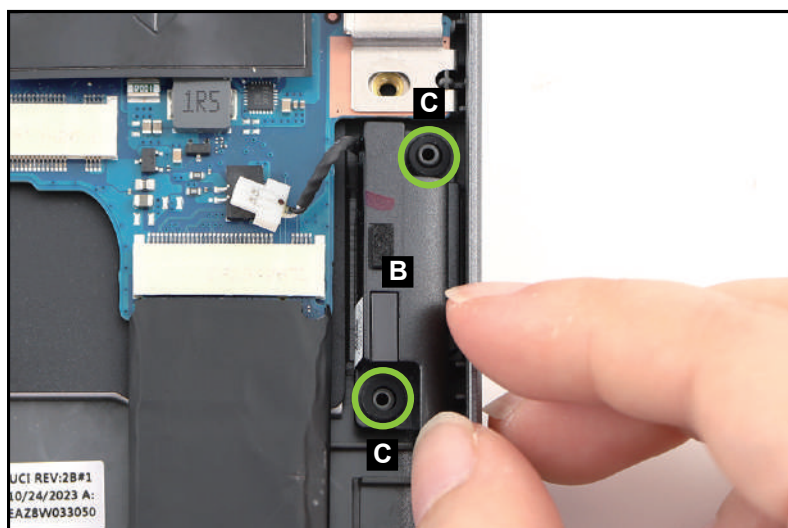

Figure 3-46. Left Speaker Removal
2. Lift the left speaker (B) to release it from the guide pins (C) on the top assembly (Figure 3-46). Then remove the speaker.